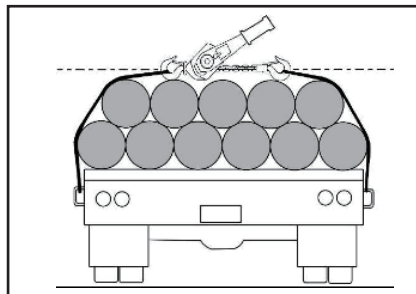

FIG 9
- When using a wire rope sling, the puller must be applied along a straight line parallel to the surface on which it is resting (FIG 9).